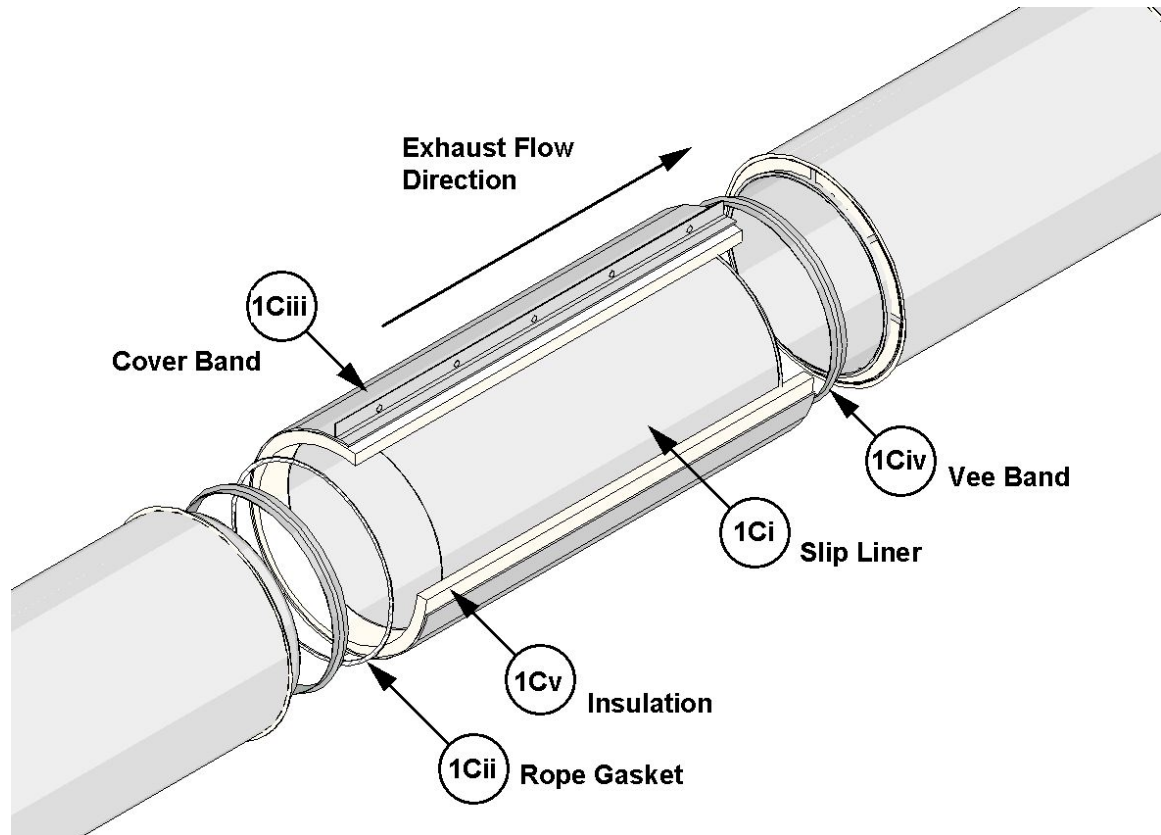

Figure 3. Adjustable Expansion Section – Part ADJ
C. Adjustable Expansion Section (ADJ): Reference Figure 3 below and also Item 2C for joint details. When required, use a ADJ consisting of the following supplied components:
- v. **Insulation:** Use the supplied insulation (Item 1Bv), which is nominal 1 in. thick or 1-1/2 in. thick, and of the same type and density as the insulation used in annular space of the Grease Duct (Item 1). Cut the insulation such that it is compressed a min. of 1 in. between the two adjoining Grease Duct sections. Wrap the insulation three (3) times for nominal 1 in. thick insulation and two (2) times for nominal 1-1/2 in. thick insulation; add a min. 2 in. overlap on the final turn.
C. Adjustable Expansion Section (ADJ) Joints: Reference Figure 3.